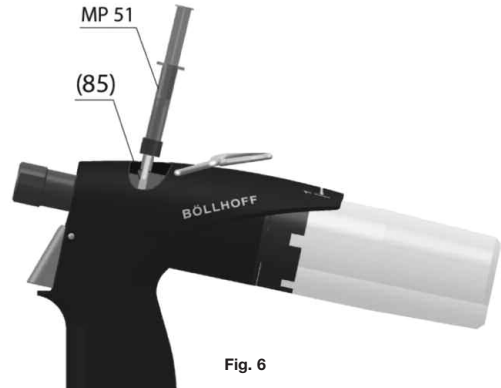

Fig. 6
- 6- Push on the piston of the syringe MP51 (fig. 6) several times in order to adjust the oil level and remove the air from the hydraulic circuit.